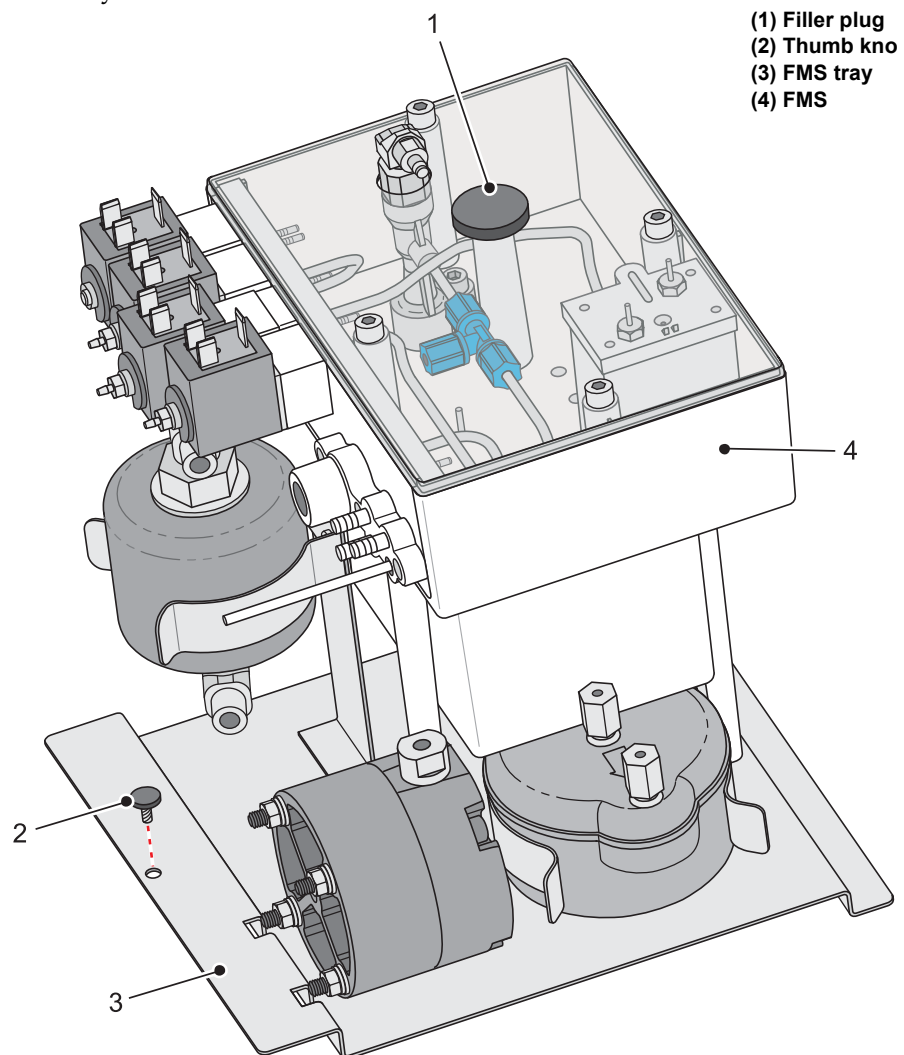

Figure 10-3. Location of FMS Filler Plug
- 1 Remove the thumb knob (Item 2 in Figure 10-3) and lift the FMS tray (3) forwards and out of the printer.
- 2 Remove the filler plug (1) from the FMS (4).